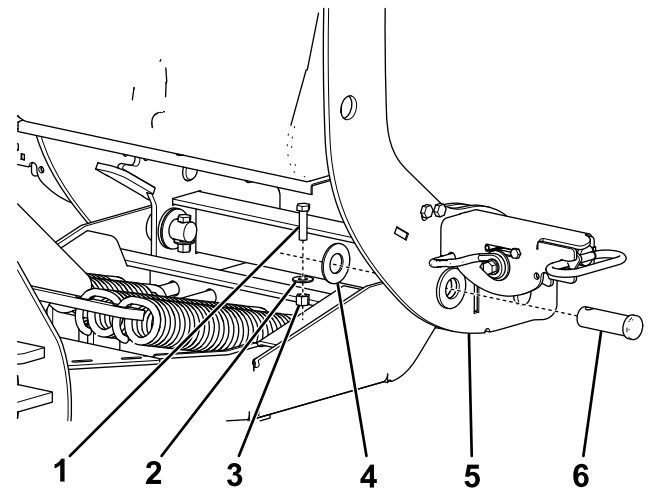

Figure 10
- Align the pivot holes of the coupler tower with the pivot holes on the pushframe, and secure them with a clevis pin (1 inch), flat washer (1 inch), bolt (3/8 x 1-1/2 inches), washer (3/8 inch), and locknut (Figure 10).